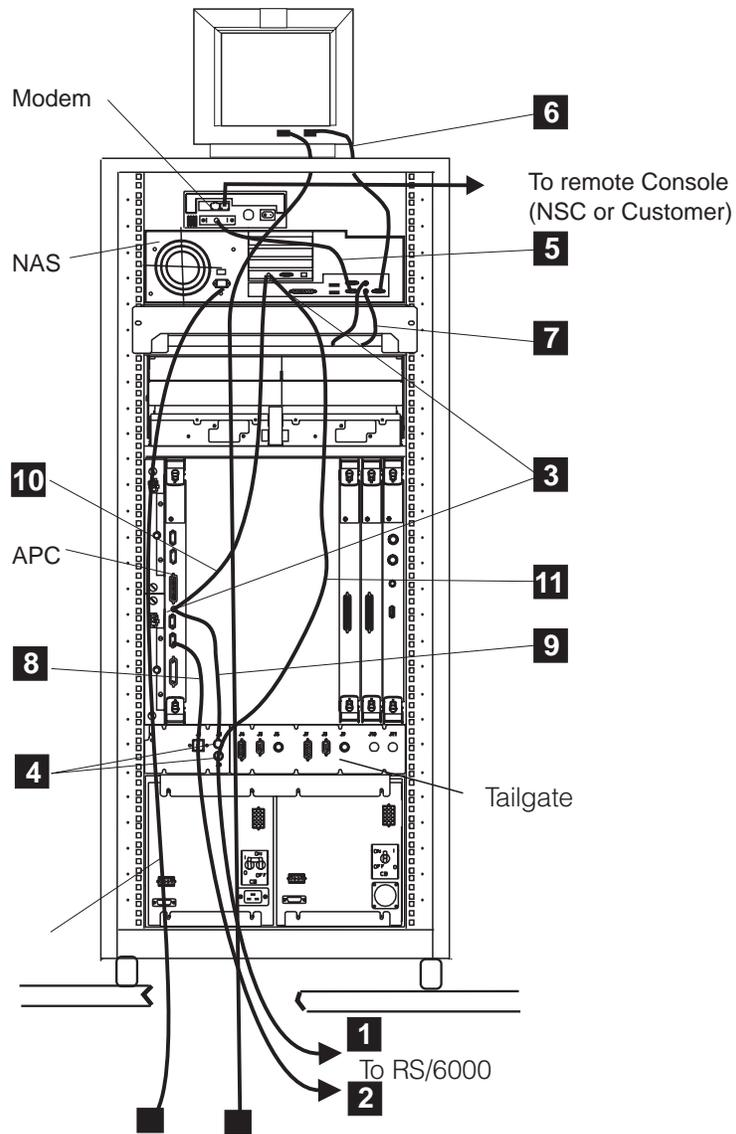
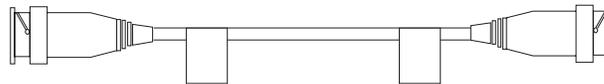
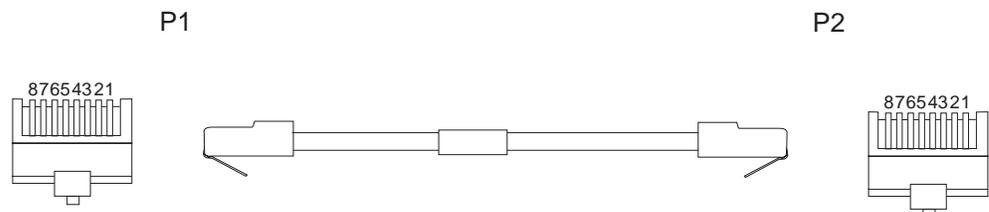

Figure 2-1. Nways Switch Administration Station Cables (Here Installed in 29 U Rack)
Figure 2-3. 10Base2 or Thin Ethernet Cable
Figure 2-4. 10BaseT Cable
Figure 2-1 on page 2-2 shows the cables that are common to all Nways Switches. The communication line cables for the LICs are described in later sections.
- Ethernet 10Base2 or Thin Ethernet See Figure 2-3 and **1** in Figure 2-1 on page 2-2.
- Ethernet 10BaseT. See Figure 2-4 and **2** in Figure 2-1 on page 2-2.
Refer to Figure 2-1 on page 2-2 reference **3**.
Refer to Figure 2-1 on page 2-2 reference **4** .
Refer to Figure 2-1 on page 2-2 reference **10** , and **11** .
Refer to Figure 2-1 on page 2-2 reference **8**, and **9**.
Refer to Figure 2-1 on page 2-2 reference **5**.
Refer to Figure 2-1 on page 2-2 reference **6**. This cable is shipped with the display.
Refer to Figure 2-1 on page 2-2 reference **7**. This cable is shipped with the keyboard.